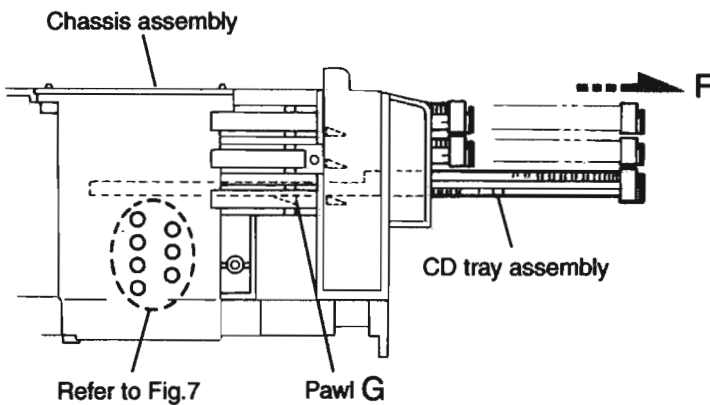

Fig.6
12. Make sure that the driver unit elevator is positioned as shown in Fig.6 from to the second or fifth hole on the left side face of the CD changer mechanism assembly.
14. Pull out all of the three stages of CD tray assembly in the arrow direction "F" until these stages stop (See Fig.6).